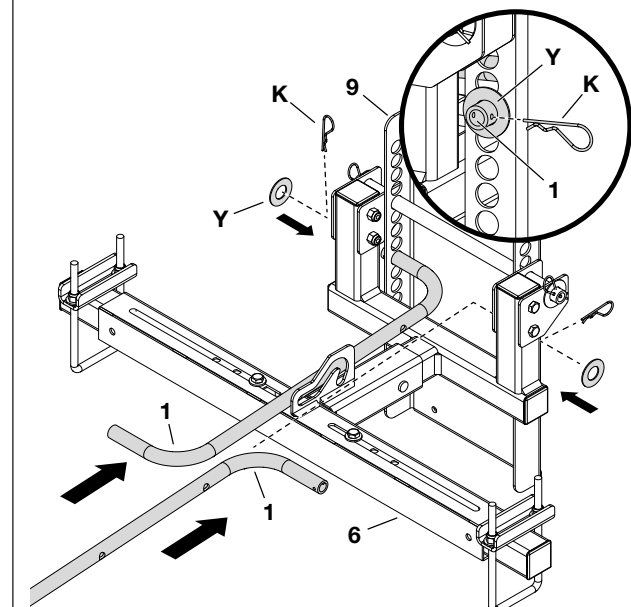

Figure 6
STEP 6: (SEE FIGURE 6)
- With a push tube (1) level to the hitch mount assembly (6), insert the uncapped end of the push tube into the bulkhead (9) hole at that height.
- Repeat with the second push tube (1).
- Secure each push tube (1) to the bulkhead (9) using a washer (Y) and hair cotter pin (K).